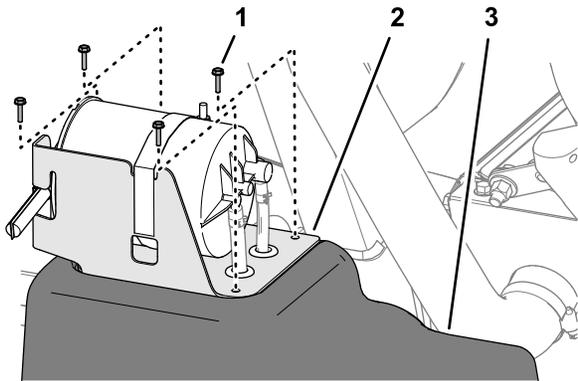

Figure 89
5. Align the holes in the carbon-canister bracket with the holes in the fuel tank (Figure 89).
6. Assemble the bracket to the tank (Figure 89) with the 4 screws (#10 x 3/4 inch).